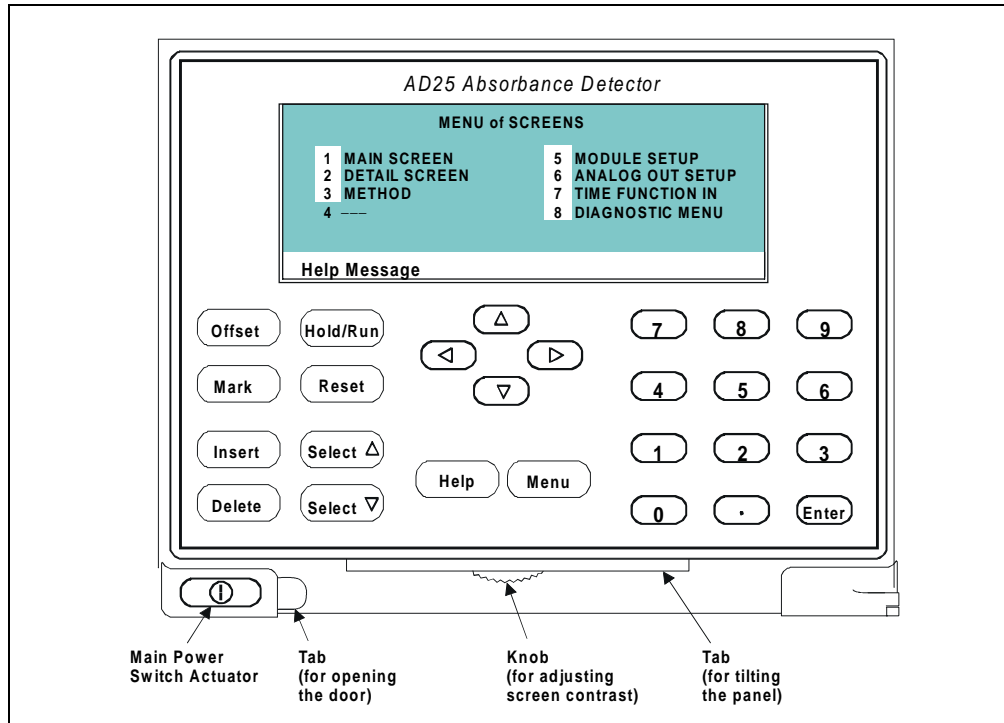
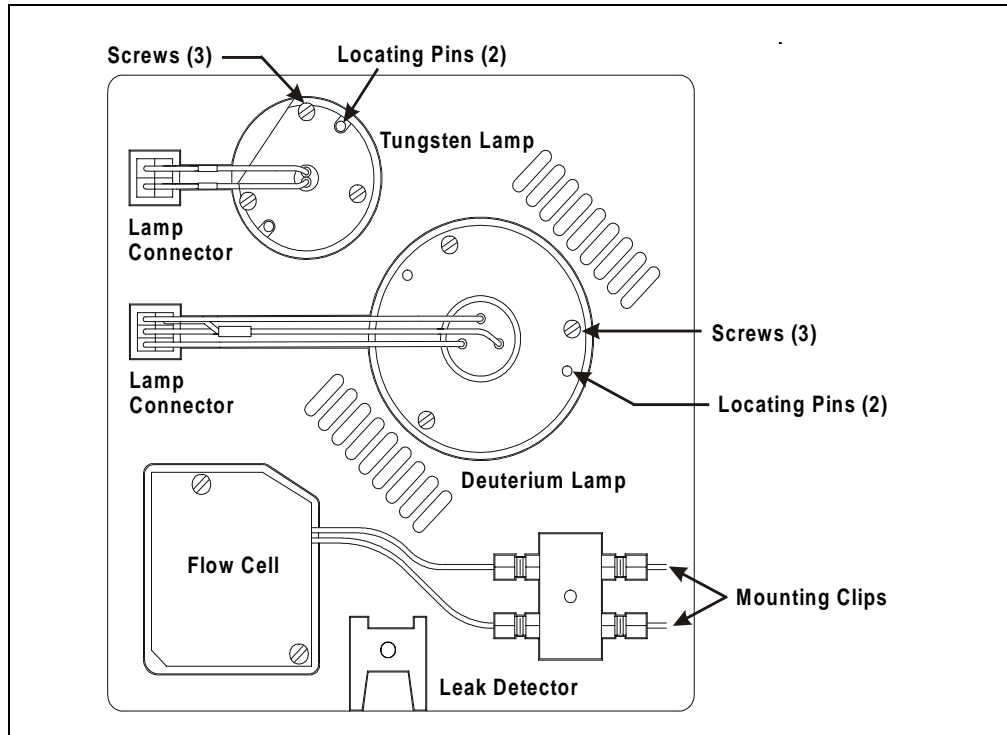

Figure 2-1. AD25 Front Panel
Figure 2-3. Connections to the Optical Bench (Inside the Front Door)
The AD25 Absorbance Detector is housed in a single-height Dionex enclosure. The control panel is on the front door of the enclosure (see Figure 2-1). The control panel includes the liquid crystal display (or *screen*), the membrane keypad, and the actuator for the main power switch.
- Adjust the screen contrast with the knurled knob in the recess below the **Help** and **Menu** buttons (see Figure 2-1).
- Adjust the control panel to one of four different positions by supporting the front door at the left side (to prevent it from opening) and lifting firmly on the tab in the recess below the **Help** and **Menu** buttons (see Figure 2-1). To return the panel to the vertical position, push on the tab.
The actuator for the main power switch is on the front door, although the power switch itself is on a bulkhead inside the detector. The actuator functions only when the door is fully closed; when the door is open, press the main power switch to turn the AD25 on and off. To open the door, pull on the tab beside the power switch actuator (see Figure 2-1).
The optical bench contains the optical hardware, flow cell, and photodiode assemblies. The optical bench is housed in a compartment behind the front door of the detector. This allows easy access to the lamp connectors and flow cell (see Figure 2-3), so that these components can be replaced without dismantling the detector. To open the front door, pull on the tab beside the power switch actuator (see Figure 2-1).